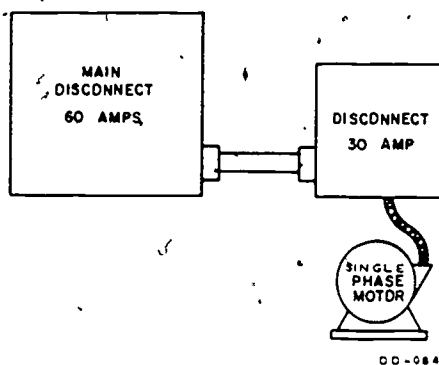

Figure 28. Connecting a Single-Phase Motor to Power
1. Obtain a piece of 3/4-inch flexible conduit long enough to reach from a 30-ampere disconnect to the motor terminal box as shown in figure 28.